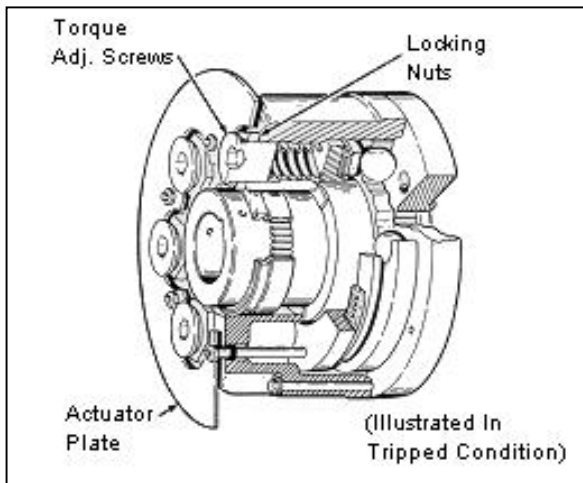

FIGURE 8
1. Adjust trip torque (Figure 8) by loosening locknuts.